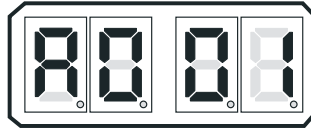

Figure 10-1: Display Function Code
- Depress the Up or Down Push Button to activate the Function Code List. The characters **A001** will be shown on the Display like Figure 10-1: Display Function Code